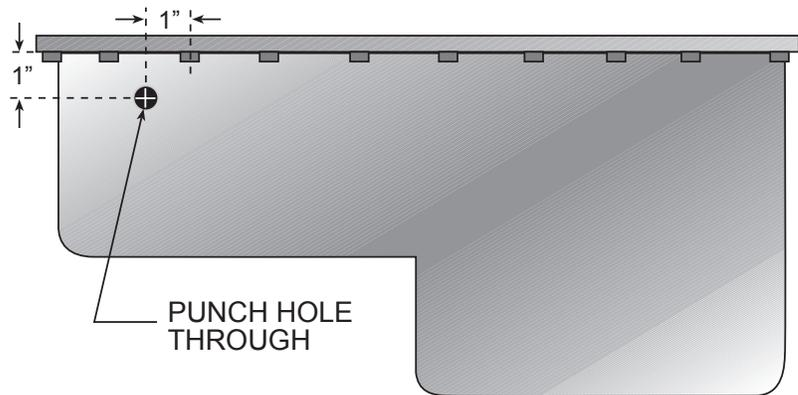

Fig. 4-a
- A. With this option, it is necessary to make a hole in the oil pan. (See Fig. 4-a.) It is best to punch the hole rather than drill. Remove paint from around the hole area so that it does not flake into the pan.